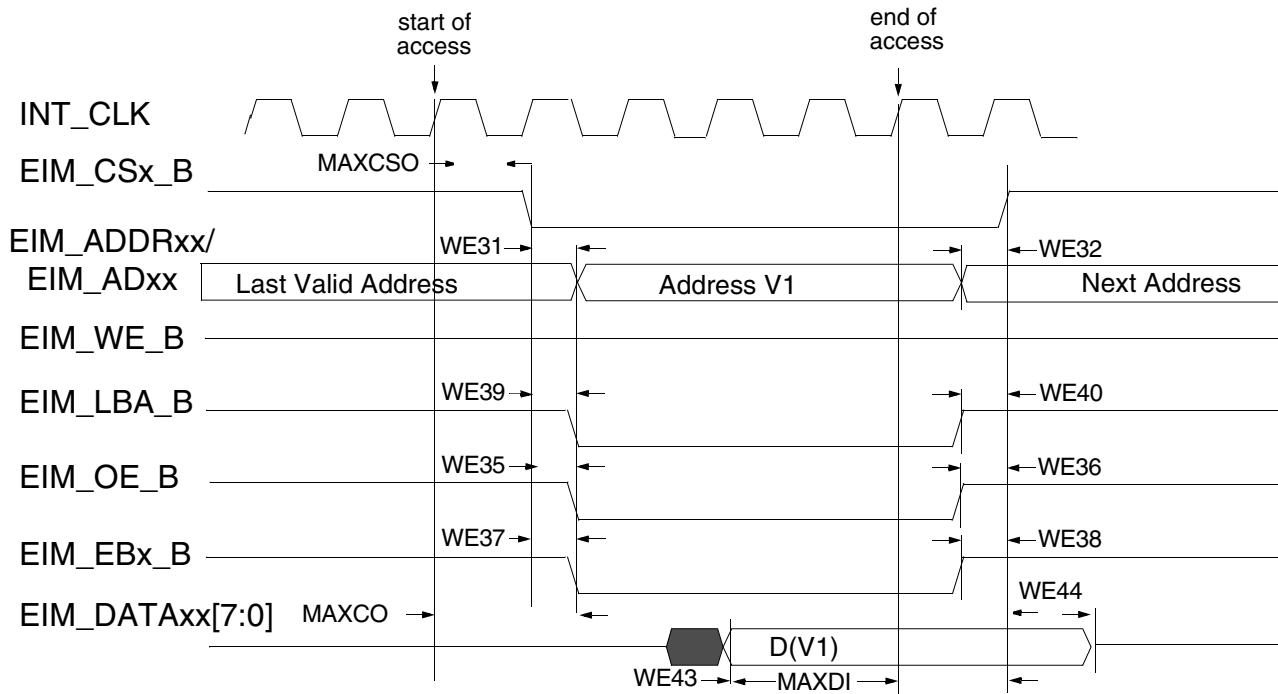
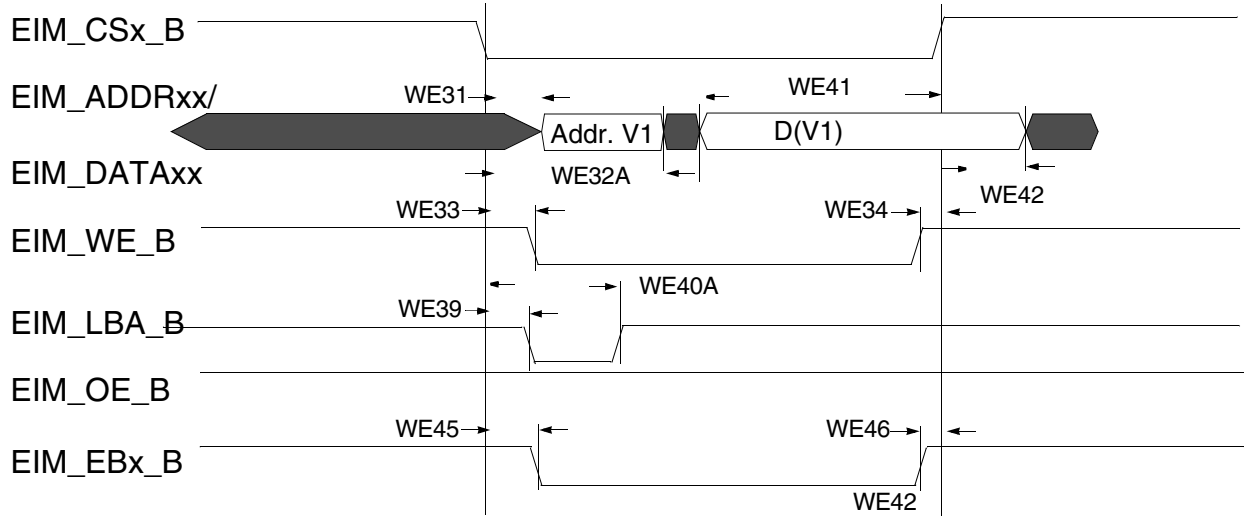
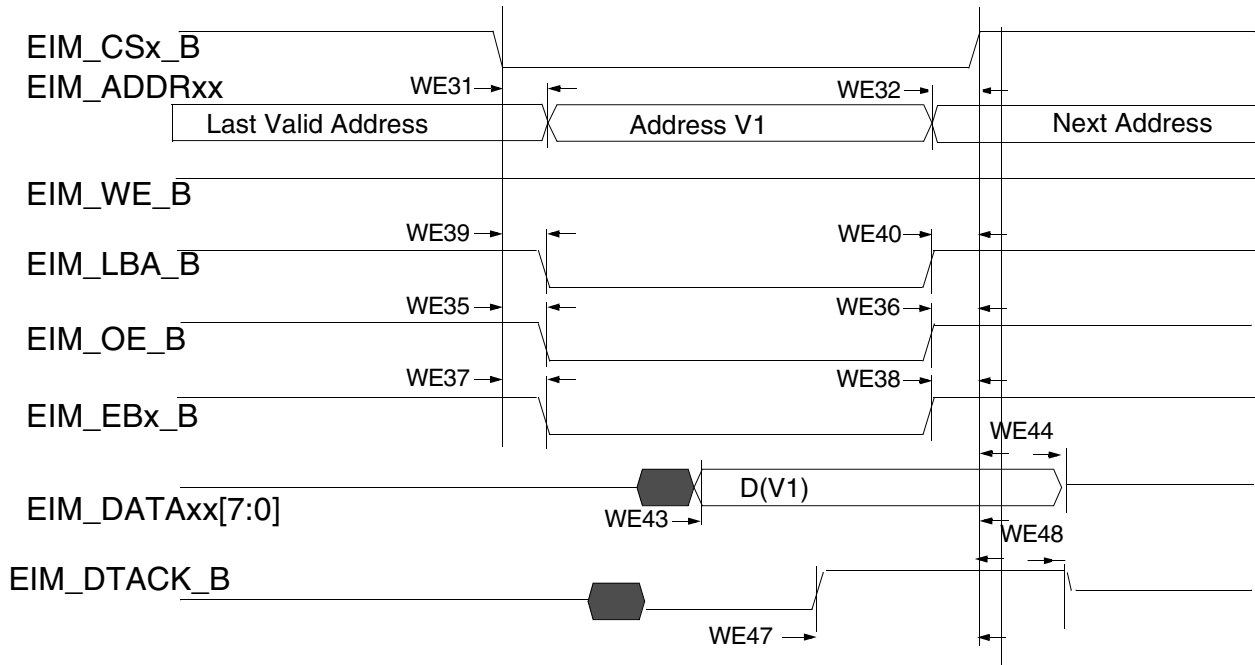

Figure 19. Asynchronous memory read access (RWSC = 5)
Figure 22. Asynchronous A/D muxed write access
Figure 23. DTACK mode read access (DAP=0)
Figure 19 through Figure 23, and Table 45 help you determine timing parameters relative to the chip select (CS) state for asynchronous and DTACK EIM accesses with corresponding EIM bit fields and the timing parameters mentioned above.
Asynchronous read & write access length in cycles may vary from what is shown in Figure 19 through Figure 22 as RWSC, OEN and CSN is configured differently. See the *i.MX 7Dual Applications Processor Reference Manual (IMX7DRM)* for the EIM programming model.